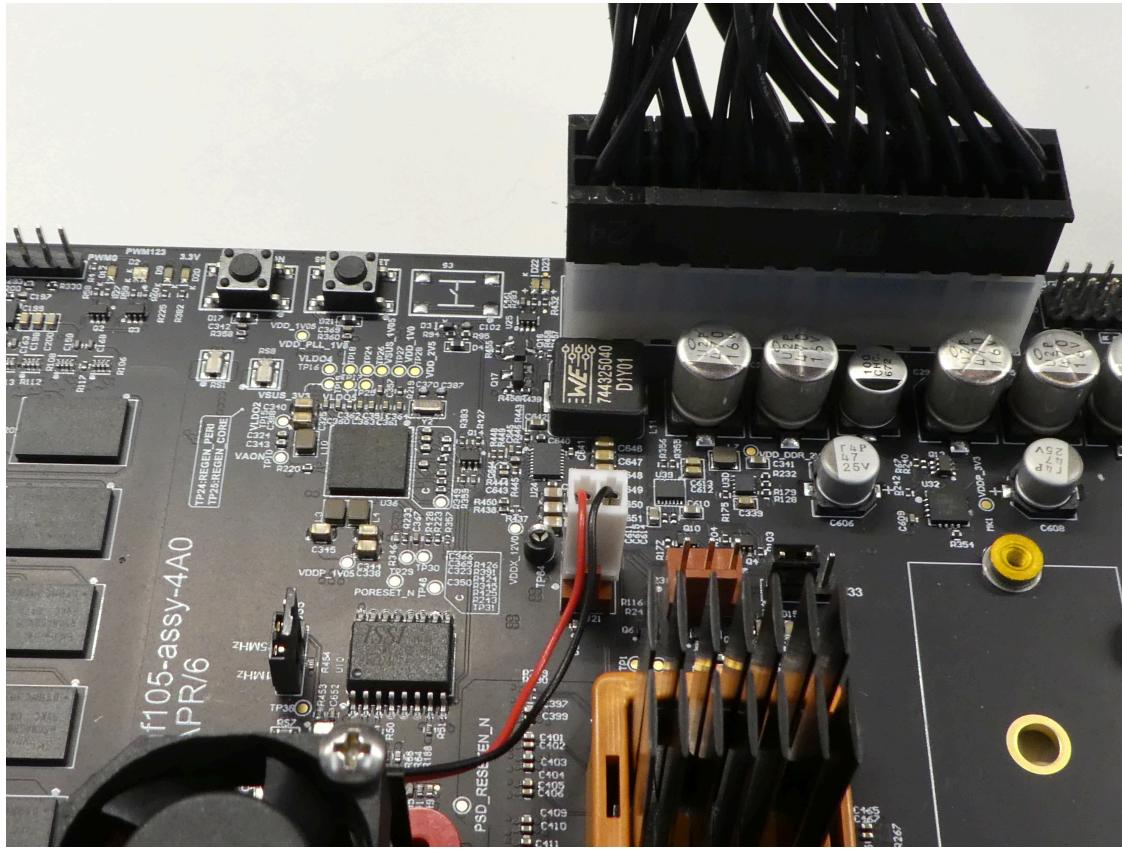
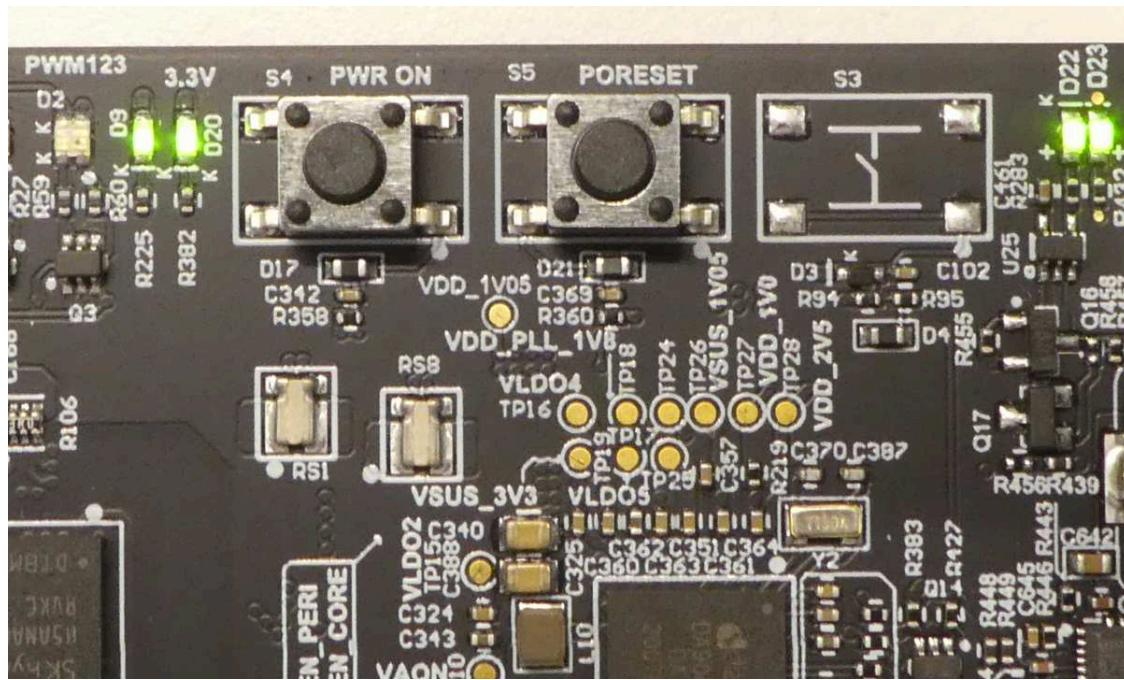

Figure 13: ATX Power Connection
Figure 14: PWM Controlled LEDs
8. Connect the ATX Power Supply 24-Pin connector to the ATX Header (**26** in Figure 1) on the Unmatched Board. Note that some Power Supply Units provide the 24-pin connections as 20-pin and separate 4-pin connectors; these need to be merged into a single 24-pin connection. The ATX Header is keyed so there is only one orientation for the Power Supply Connector to connect with the ATX Header. ATX Header connection for the split 20+4 pin connector is shown in Figure 13. Green LED D23 (visible in Figure 14) will turn ON to indicate that ATX power supply is connected to the board).
Power On the board by depressing and releasing the Power Push Button. The board should power on with the CPU Fan running and 3 Green LEDs turning on as seen in Figure 14. This indicates that the board is properly powered and that all required internal supplies are up.
Figure 14 points to 2 PWM driven LEDs which are configured by software. During power-up, these may come up in an uninitialized state which should be ignored when checking the board without the SD Card inserted.